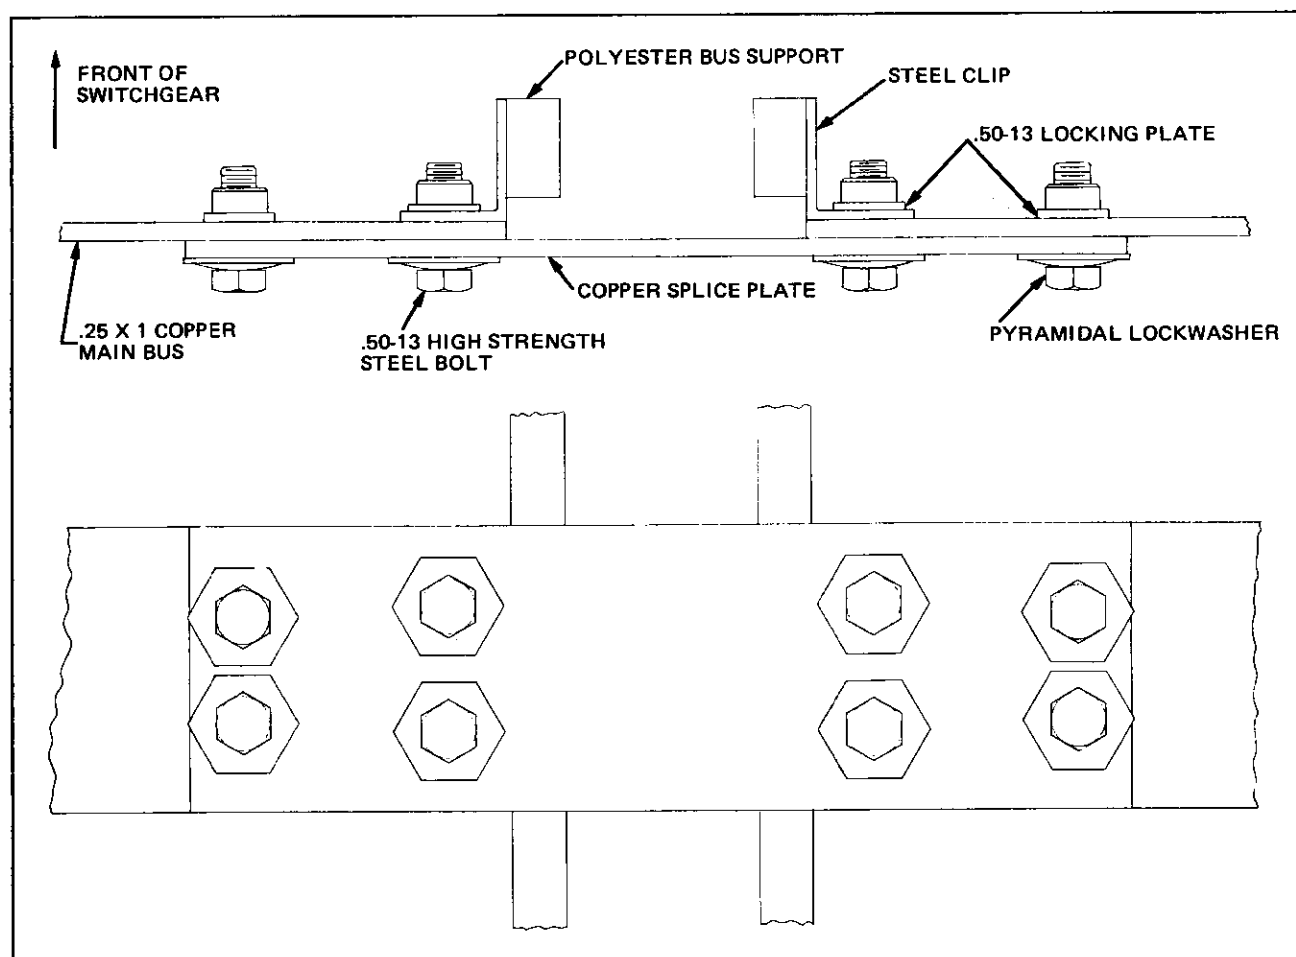

Fig. 39 Field Assembly of Joints in 1600/2000 Amp Copper Bus
4. 1600/2000 Amp Copper Bus - Fig. 39.